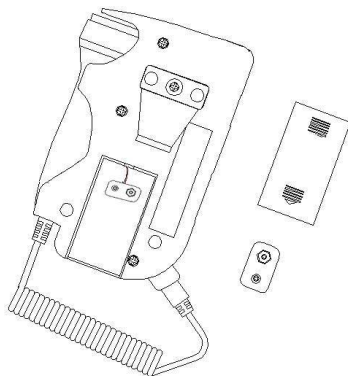

Figure 4-7
- 3) Take out the battery out from the compartment a little and disconnect the battery from the connector (Figure 4-7);